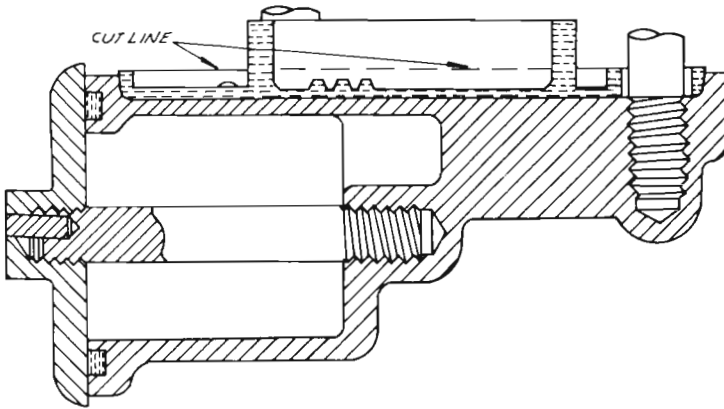
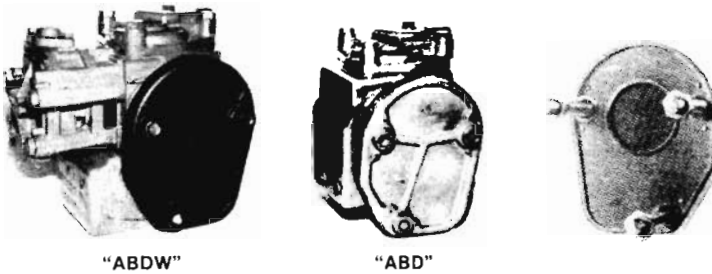

Figure 16
Figure 17
8.2 One type "ABD" and "ABDW" Control Valve Service Portion shipping cover as shown in Fig. 15 is the same as the "AB" Control Valve Service Portion shipping cover except that one of the $\frac{5}{8}$ " \times $6\frac{3}{4}$ " studs, Pc. 98834 (CV-669) has been replaced by a $\frac{5}{8}$ " \times 3" stud, Pc. 568998 (CV-1116) and cover gasket, Pc. 514100 (CV-575) has been replaced by cover gasket, PC. 569667 (CV-1173) held in place by drive screws, Pc. 98850 (CV-213). The "AB" Control Valve Service Portion shipping cover may be converted for use with "ABD" Control Service Portion by changing $6\frac{3}{4}$ " stud with 3" stud and by cutting cover gasket as shown by Fig. 16. Examples of other approved valve portion shipping covers are shown in Fig. 17 and 18.